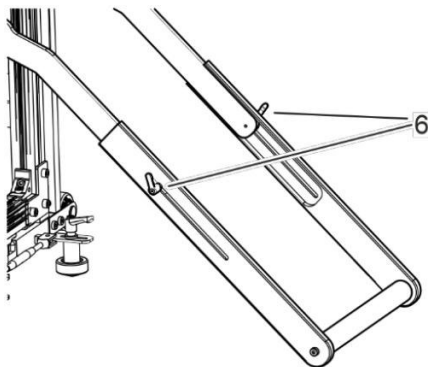

Fig. 27: Clamping lever on the lever arm
1. ➤ Release both clamping levers (Fig. 27/6) on the lever arm.
3. ➤ Close both clamping levers (Fig. 27/6).